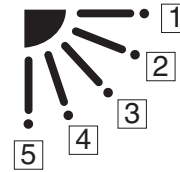

Fig. 1-141
* Setting data "**YYYY**" (refer to Fig. 1-141)
When the flap position is set to **4** or **5** and the unit is in the cooling or dry mode, the flap position is moved to **3** and the operation is started. (refer to Fig. 1-141)
At this time, the unselected flaps are moved to the position **1**. (refer to Fig. 1-141)